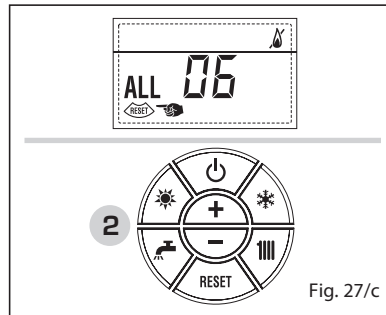

Fig. 27/c
- ALL 07 (fig. 27/d) Press the key of the controls (2) to re-start the boiler.